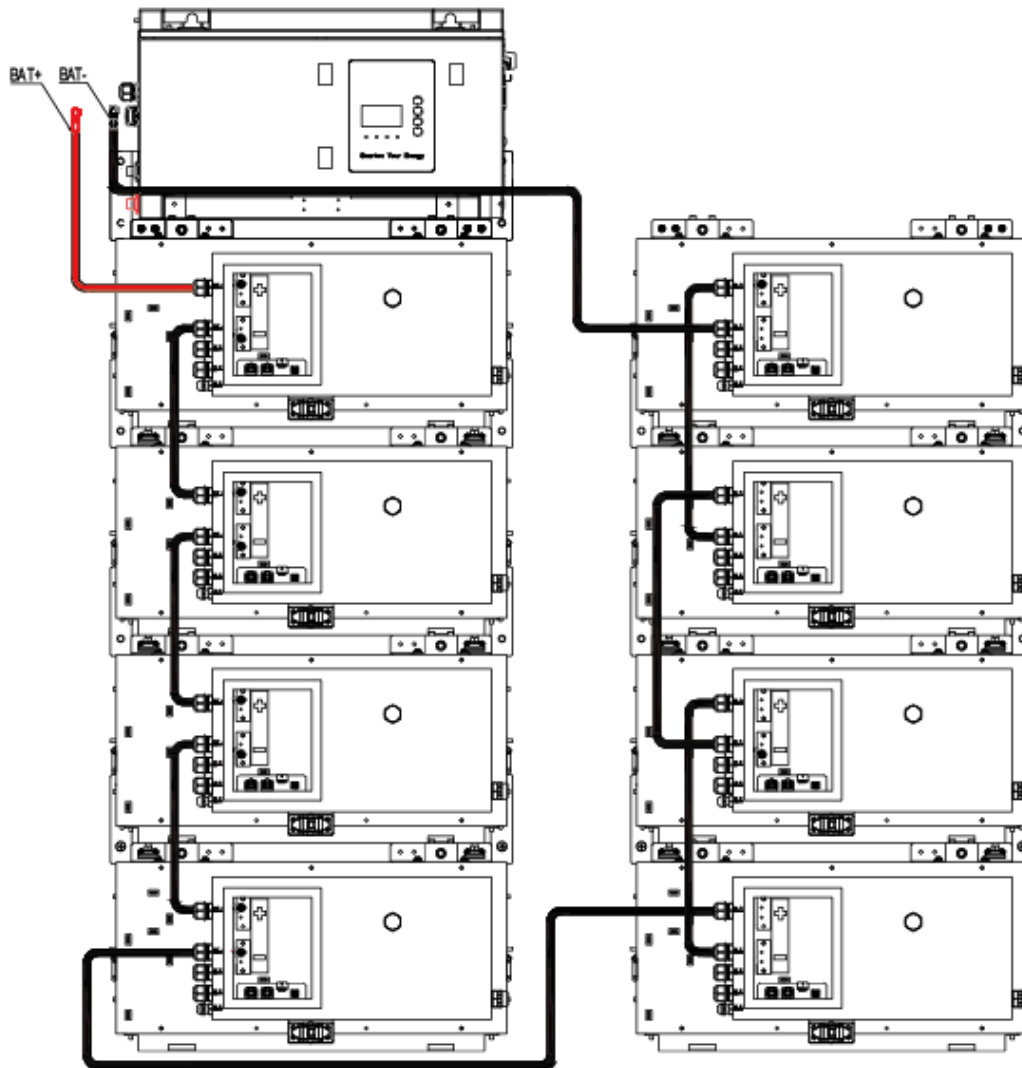

Figure 21 Connection of Power Cables on Battery Side
Step 14: Please connect the power cables as referred in Figure 21 .